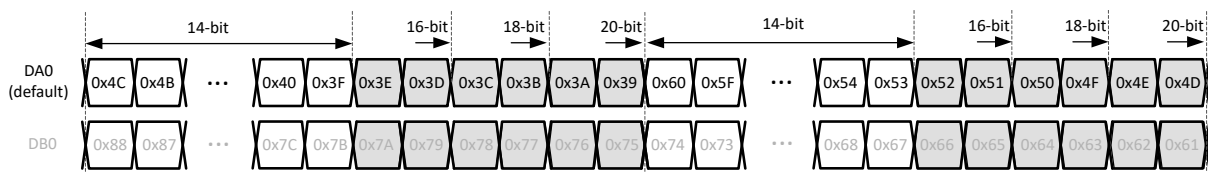

图 8-46. 1/2-wire output bit mapping
**1/2-wire mode:** The output is only lane DA0 and the sample order is programmed into the 40 addresses of chA (from 0x39 to 0x60). It covers 2 samples (one for chA, one for chB) as shown below. If desired, it can be duplicated on DB0 as well (using addresses shown 图 8-46) in order to have a redundant output. Lane DB0 needs to be powered up in that case.